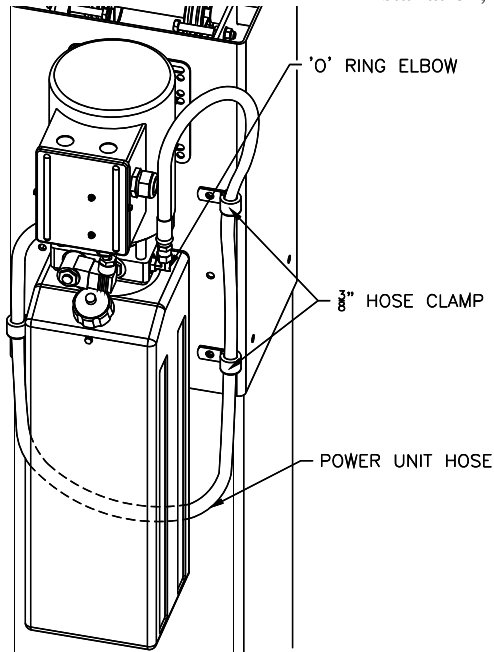

Fig 9b Power Unit Connection
23) Thread 9/16-18 O-ring elbow (*in hardware box*) into power unit. **CAUTION** do not damage rubber O-ring. Attach free end of power unit hose to elbow. See **Fig 9b**.